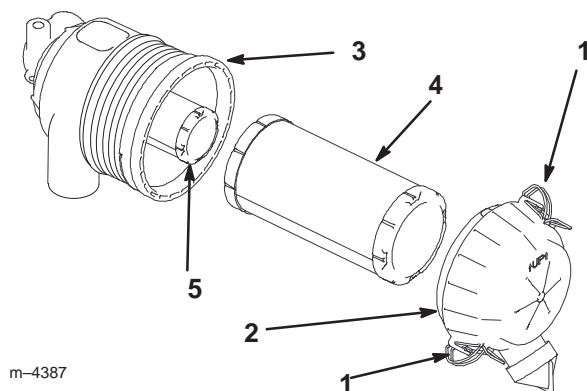

Figure 23
2. Release the latches on the air cleaner and pull the air cleaner cover off of the air cleaner body (Fig. 23).
4. Gently slide the primary filter out of the air cleaner body (Fig. 23). Avoid knocking the filter into the side of the body. Do not remove the safety filter, unless you intend to replace it as well.
2. If the safety filter is being replaced, carefully slide it into the filter body (Fig. 23).
3. Carefully slide the primary filter over the safety filter (Fig. 23). Ensure that it is fully seated by pushing on the outer rim of the filter while installing it.
4. Install the air cleaner cover with the side indicated as UP facing up and secure the latches (Fig. 23).